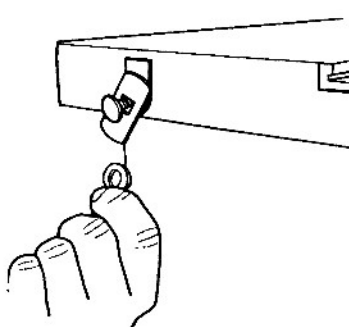
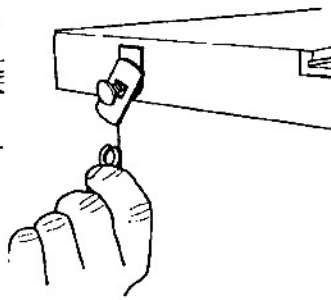
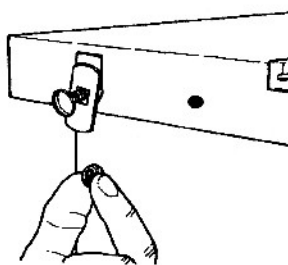

Fig. A-32
Fig. A-32a
Fig. A-33
38. Loosely attach the bolt with a flat washer (see Fig. A-32), lock washer (shown in Fig. A-32a) and a nut (shown in Fig. A-33). The bolt and locking plate should protrude beyond the table edge about 1/2" to 3/4".